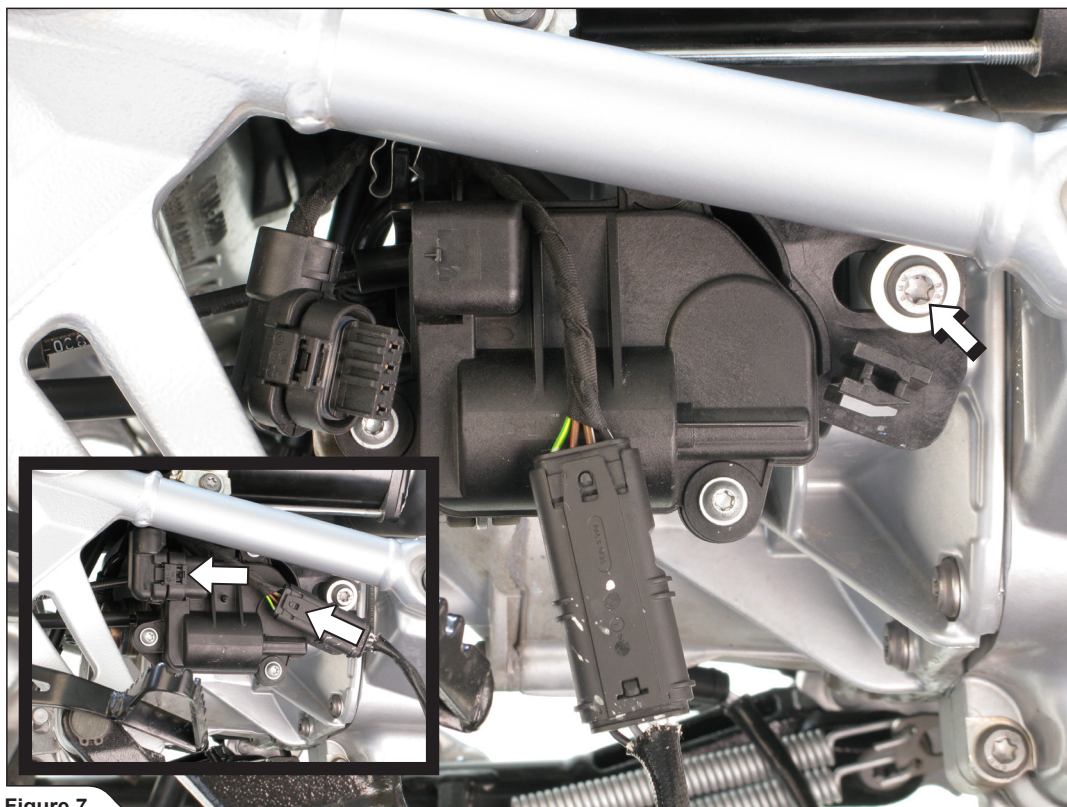

Figure 7
7. Unhook the right cylinder's lambda connector off the servo's housing, disconnect the exhaust valve servo's connector, unscrew the marked bolt and carefully remove the servo together with valve's cables off the motorcycle (Figure 7).